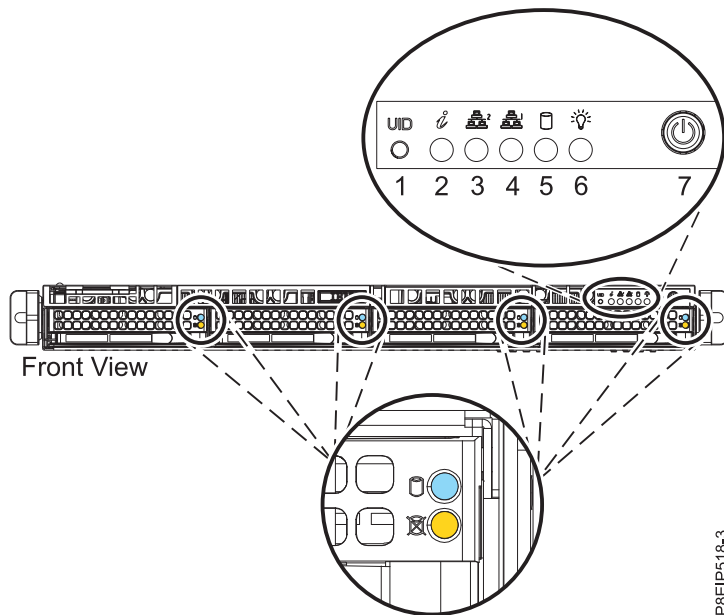

Figure 66. Power switch for 7063-CR1
2. Press the power button (7) shown in Figure 66. You may have to press the switch for 0.5 to 3 seconds.